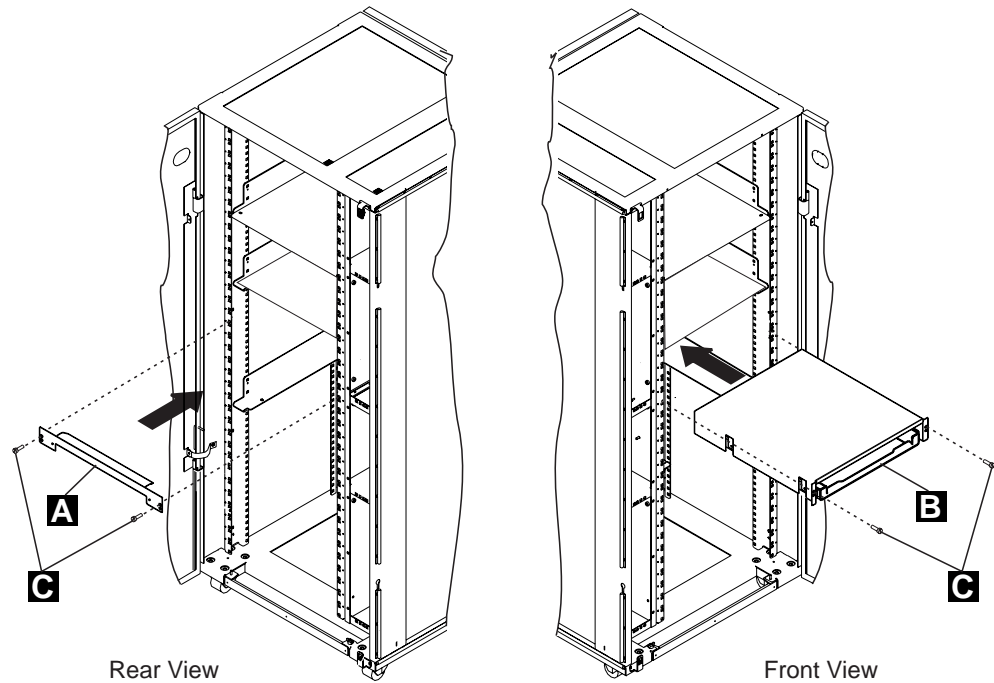

Figure 1-6. Installing the Service Drawer
9. ____ Refer to Figure 1-6, on the rear side of the controller expansion, install bracket **A** using two screws **C** (PN 1621230).